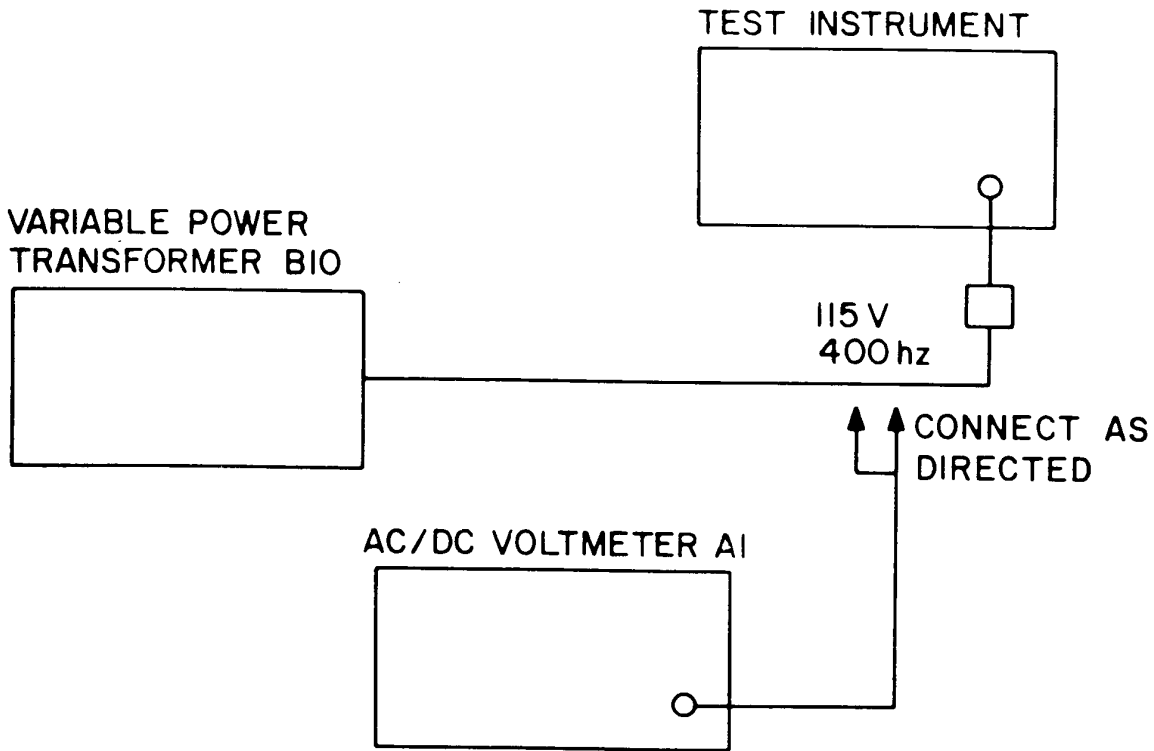

Figure 9. Power supply check - equipment setup.
**a.** Connect the equipment as shown in figure 9.